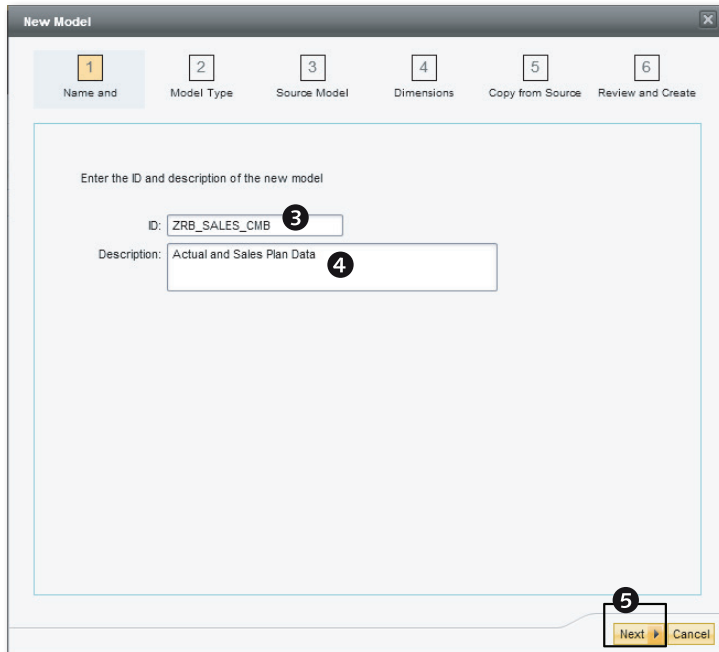

Figure 3.38 Creating a Model—Part B
3. You're now guided through a wizard to create the model. Enter "ZRB_SALES_CMB" as the technical name and "Actual and Sales Plan Data" as the description for the model (Figure 3.38, ③ and ④). Select NEXT (Figure 3.38, ⑤).